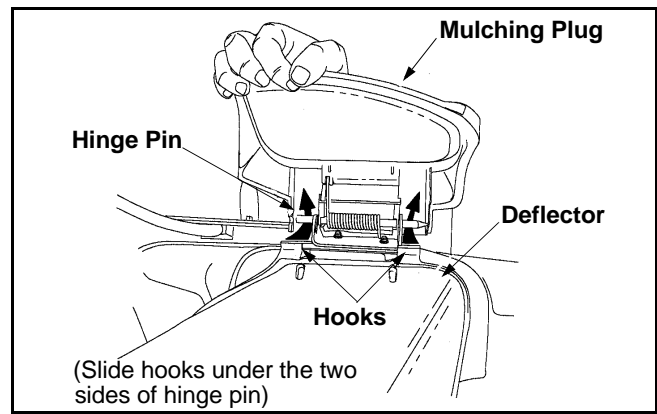

Figure 9
1. Make sure the grass catcher is off the unit and the rear discharge door is closed. Refer to Figure 9.
2. On the side of the mower, lift the mulching plug. See Figure 9.